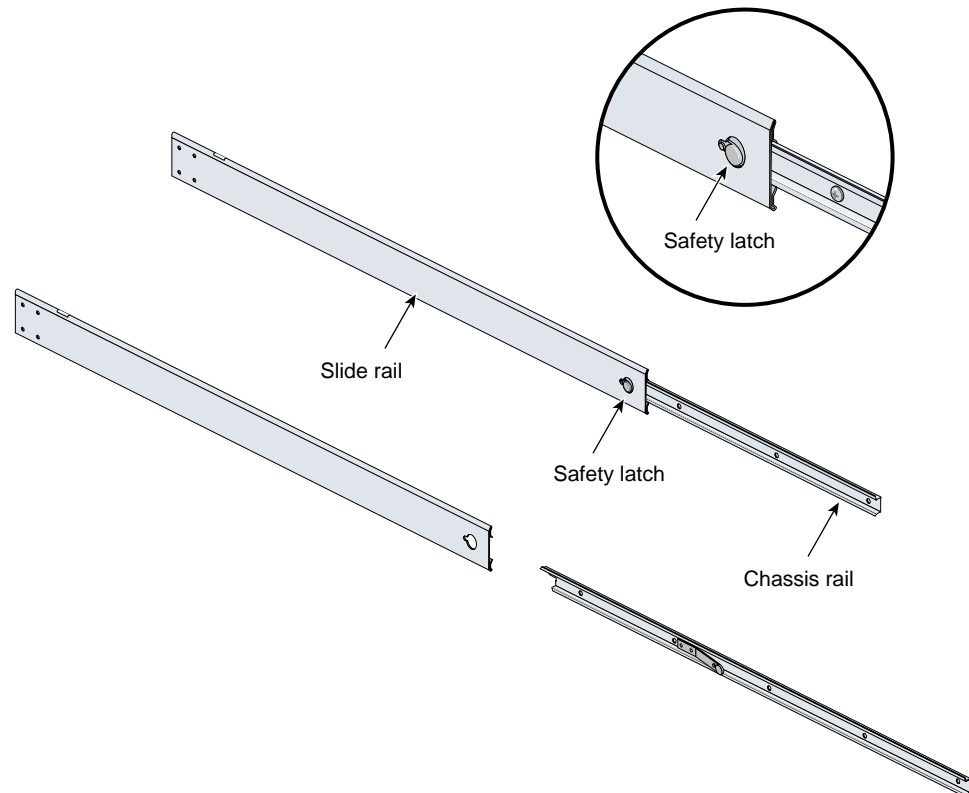

Figure 2-2 Removing the Chassis Rail from the Slide Rail
3. Press the safety latch and remove the chassis rail from the slide rail, as shown in Figure 2-2.